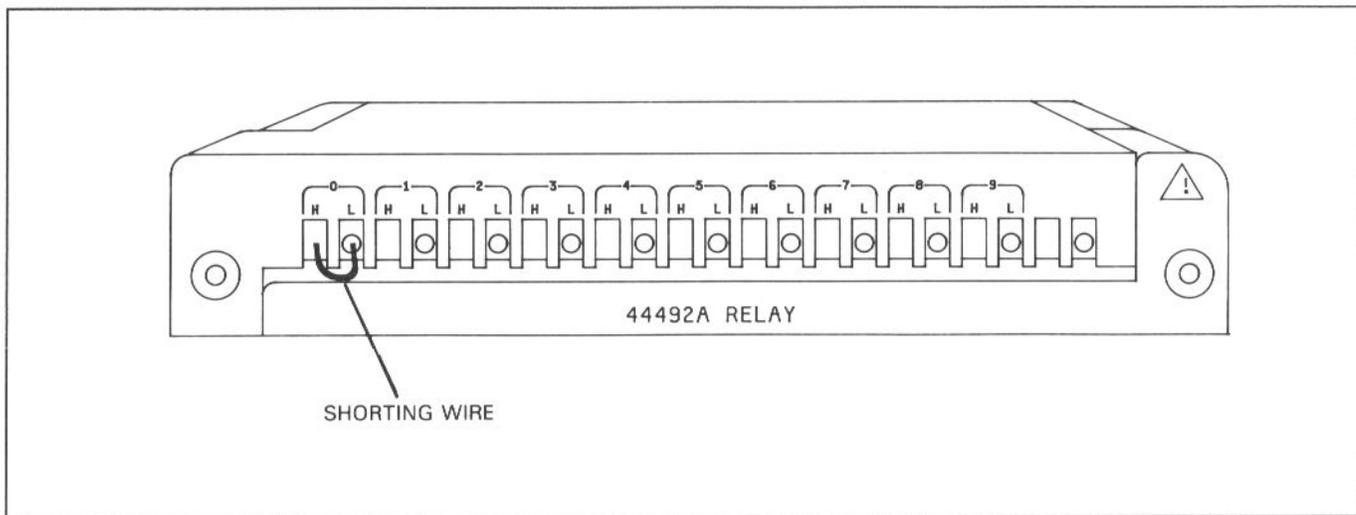

Figure 5-5. 44492A Wiring Block Connections
- d. Install a copper shorting wire between the H and L inputs of channel 0. Tighten the two retaining screws. (Refer to Figure 5-5 for wire connection).